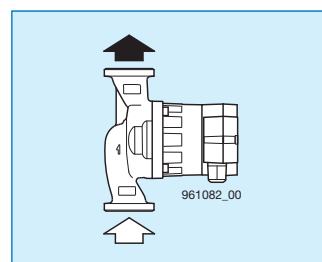

Fig. 5: Flow direction
- The arrow on the pump casing shows the flow direction (fig. 5)